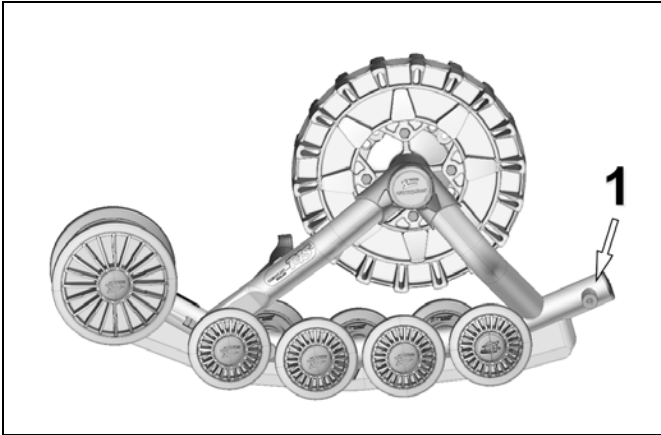

Figure 27
- Remove the two 202 mm wheels (1) opposite to the track tensioner. Refer to Figure 27.